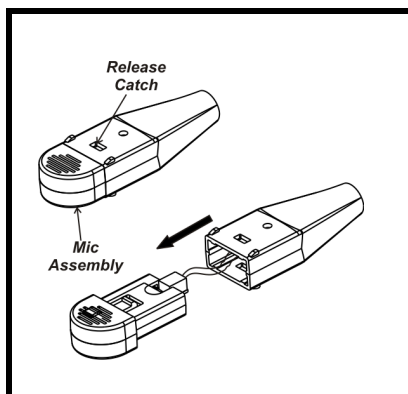

FIGURE 7. Mic Element Removal
7. **For mic replacement**, press the release catch and carefully pull out the mic element. Avoid pulling the connecting wires. See Figure 7.